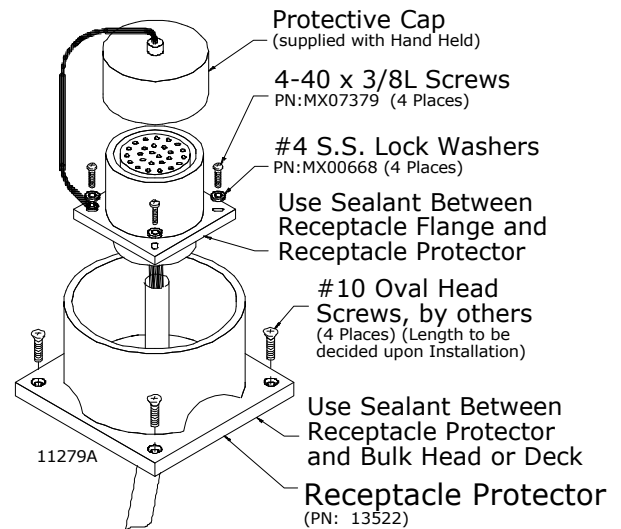
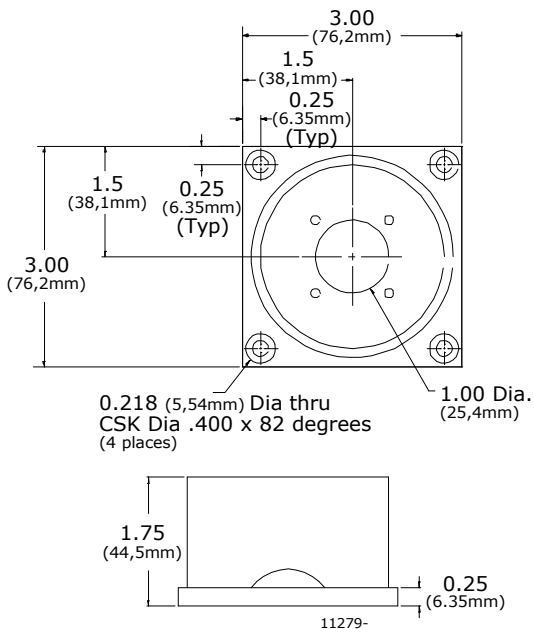

Figure 6 – Receptacle Protector
Figure 9 – Receptacle Protector Dimensions
- If Receptacle is to be mounted on the deck or area of bulkhead that is not protected, a Receptacle Protector should be used. Refer to Figure 6 and Figure 9.
- A) At the location decided to house the Receptacle, cut a center hole through the bulkhead and drill four mounting screw holes. Refer to Figure 9 for Receptacle Protector dimensions.